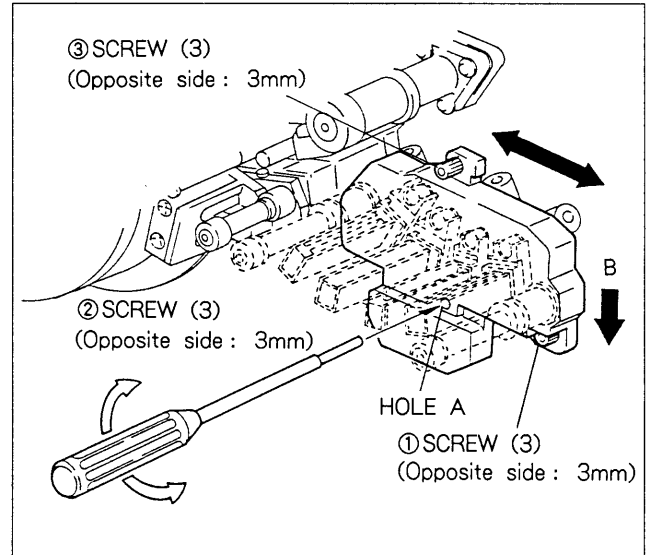

Fig. 9-11-4. CTL Head position Adjustment
4. Loosen the three screws (3) shown in Fig. 9-11-4 for one-fourth to one-half turn.
7. Tighten the three screws (3) in order of ①, ② and ③, then check step 6 again.